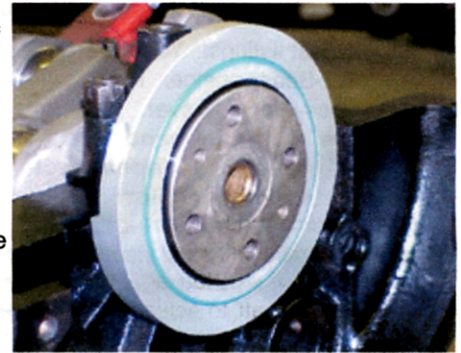

FIGURE 4
16) Apply a dab of Permatex Ultra Black sealer to the two mating surfaces of the Seal Retainer (where they bolt together). Place the rear cap with Seal Retainer attached in position. Tighten and torque the six main bearing nuts, all the while determining that the Seal is seated into the Seal Retainer. Install and tighten the two socket screws. Be sure to apply a dab of grease or anti-sieze compound to these 2 screws. The installation at this point should look like FIGURE 4.